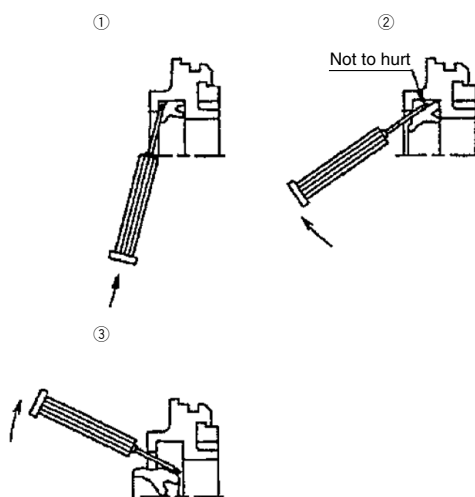

Fig. 2 How to remove the rod seal
b. Insert the driver to the collar front to pull out the seal like Fig. 2.